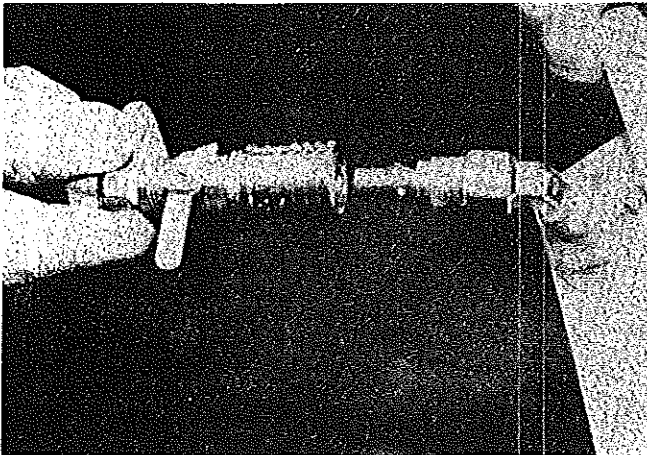

FIGURE 33
32. With the stove valve in the **off** position engage the gas disconnect to the stove assembly and open the gas valve. See Figures 33, 33A and 33B.
38. Disconnect the gas supply line by first turning the gas shut off valve to the "OFF" position. See Figure 33.
44. With the valve in the "OFF" position, engage the gas disconnect on to the stove module and open the gas valve. See Figure 33.